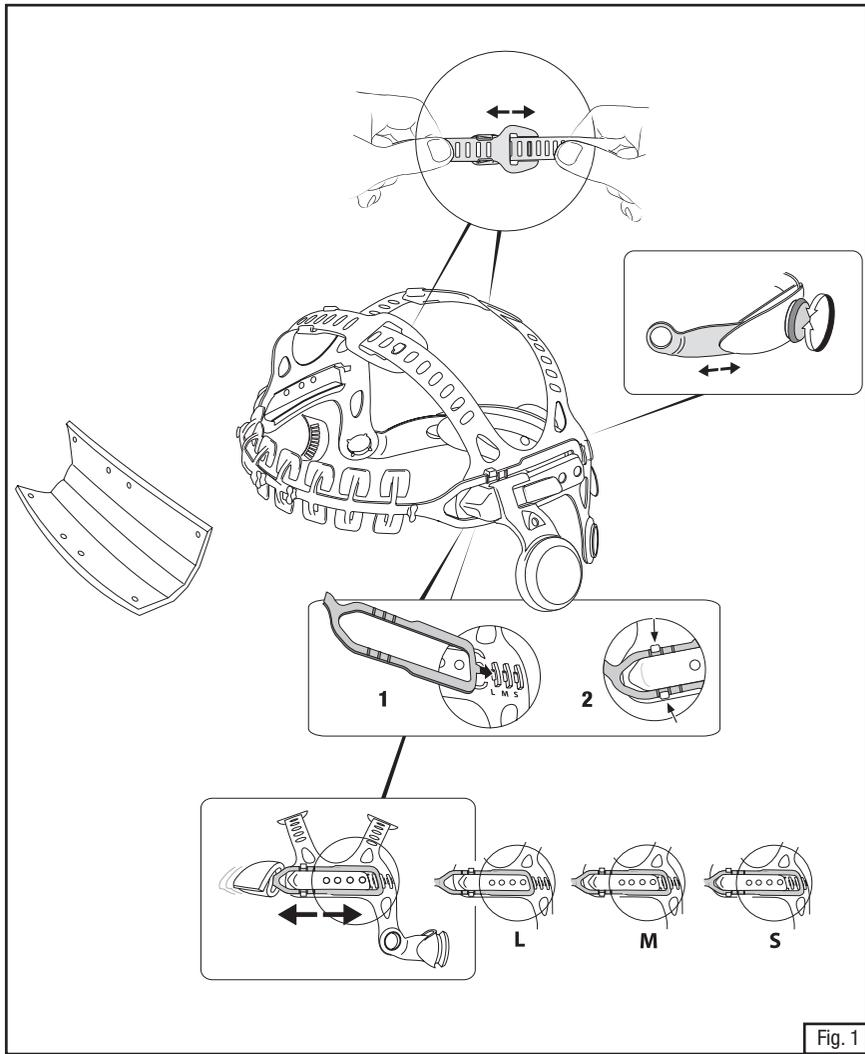

Fig. 1
- 1) Place the 3M Speedglas Welding Helmet, 9100 FX on the head and tighten the ratchet on the back of the headgear (Fig.1) until a comfortable, but secure fit is achieved. If a comfortable fit can not be achieved using the ratchet alone, use the coarse adjustment of the front headband where the L, M, and S adjustment are as shown in the bottom of Fig. 1. L refers to a larger head circumference, M is for a medium head circumference and S is for a smaller head circumference. Adjust the coarse adjustment based on head circumference, and then replace the helmet on the head and tighten the ratchet to achieve a comfortable but secure fit. For additional adjustment, the ratchet may also be turned 180 degrees to achieve a slightly different fit based on position as shown in Fig. 2.
- 2) The two top, crown straps should be adjusted to assure that the weight of the helmet is distributed and carried evenly on the top of the head. With the helmet on, and the ratchet tightened, check to make sure that both crown straps are adjusted so that there is no excess space or gaps between the top of the head, and the crown straps. At times, the back crown strap may be too large and cause a gap, but this is not an appropriate manner for wearing the helmet. If there is an excessive gap, adjust the crown straps by sliding and tightening as shown in Fig. 1. If there is no gap, but the helmet feels as though it is too high on the head, loosen the crown straps until a comfortable height is achieved.